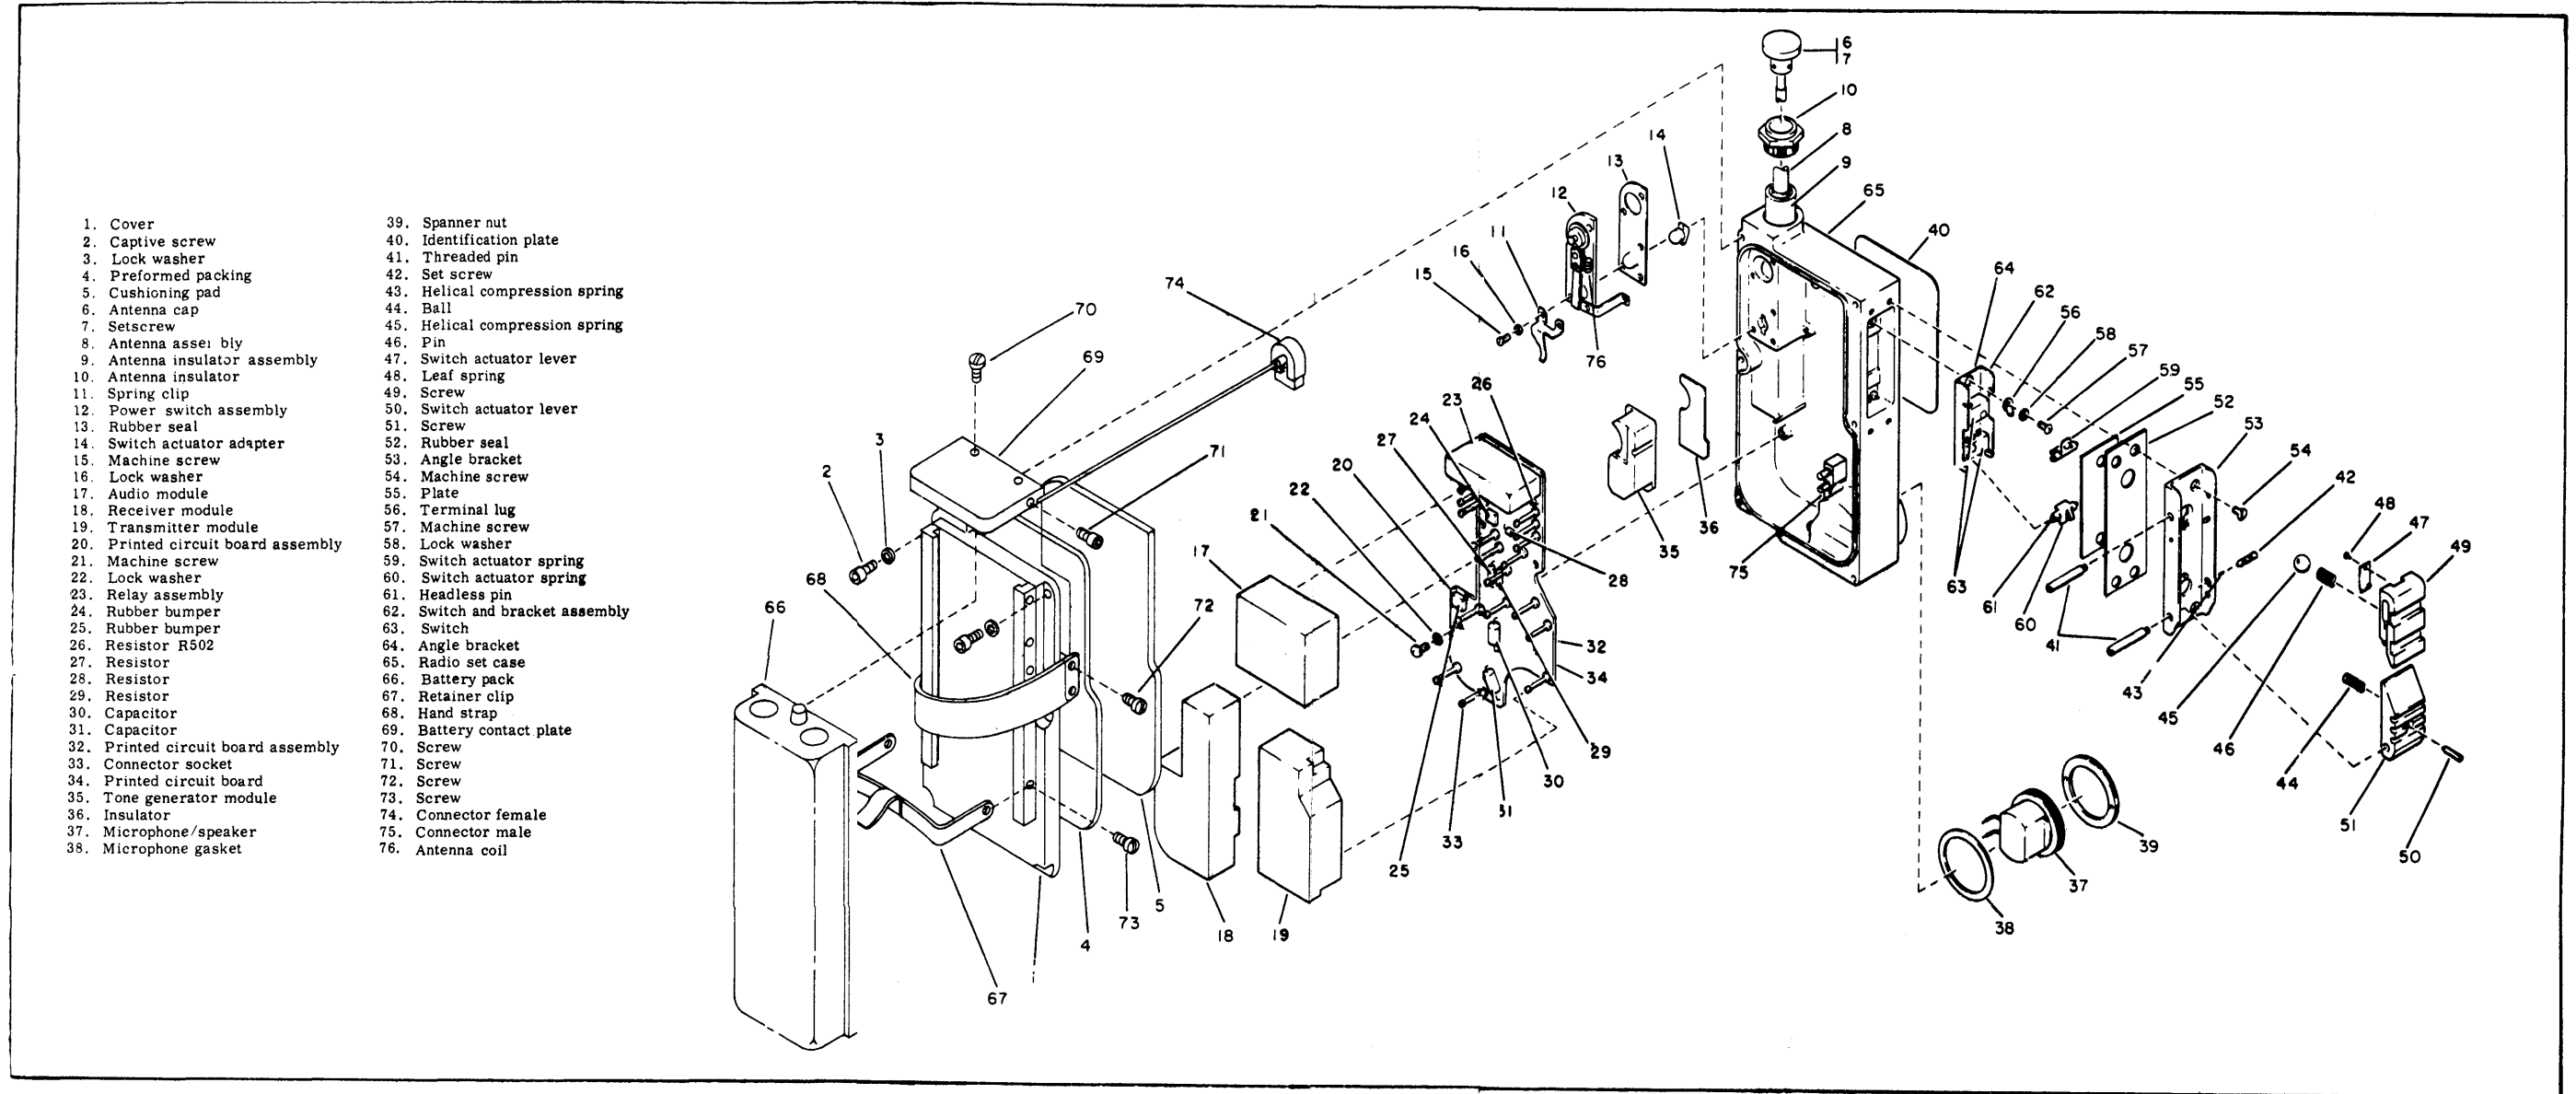

Figure 6-7. Receiver-Transmitter ACR RT-10, Exploded View
6-19. REMOVAL AND REPLACEMENT OF RADIO SET COVER. To remove or replace the cover (1, figure 6-6) from the RT-278A/URC-10, or ACR RT-10 (1, figure 6-7), proceed as follows:
c. To remove the K308 battery pack and rear cover from the ACR RT-10 (figure 6-7), loosen the six captive screws (2) and move aside the cover to expose the battery connector, P501 (74). Remove P501, discard the battery pack and rear cover. When replacing the battery pack and rear cover, insure that cushioning pad (5) and preformed packing (4) are correctly positioned. Connect P501 (74), install cover (1), and tighten six screws (2).
d. To remove the K308A battery pack (66) from the ACR RT-10 (figure 6-7), grasp the lanyard on the battery retainer clip (67) and swing the clip outward from the case. Grasp the battery (66) and slide downward out of the rear cover channels. Replace the new battery by sliding upward into the rear cover channels, making sure that the flexible silicon-rubber material at the top of the battery is penetrated by the two wire prods in the top of the battery contact plate (69). Grasp the lanyard and swing down the retainer clip (67) to secure the battery in place.